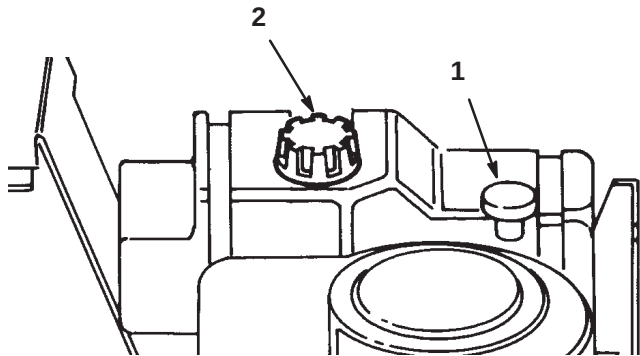

Figure 10
2. Clean around the oil dipstick (Fig. 10) so dirt cannot fall into the filler hole and damage the engine.
3. Unscrew the oil dipstick and wipe the metal end clean (Fig. 10).